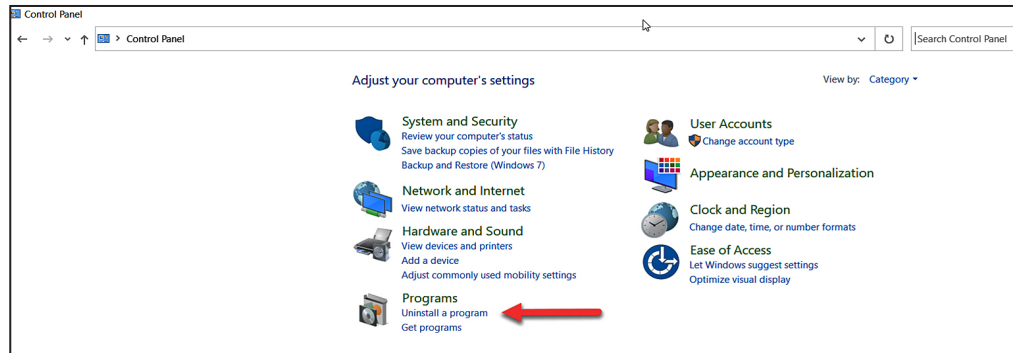

Figure 37. The Control Panel dialog box.
STEP 3. From the Control Panel dialog box, select “Programs.” See Figure 37.